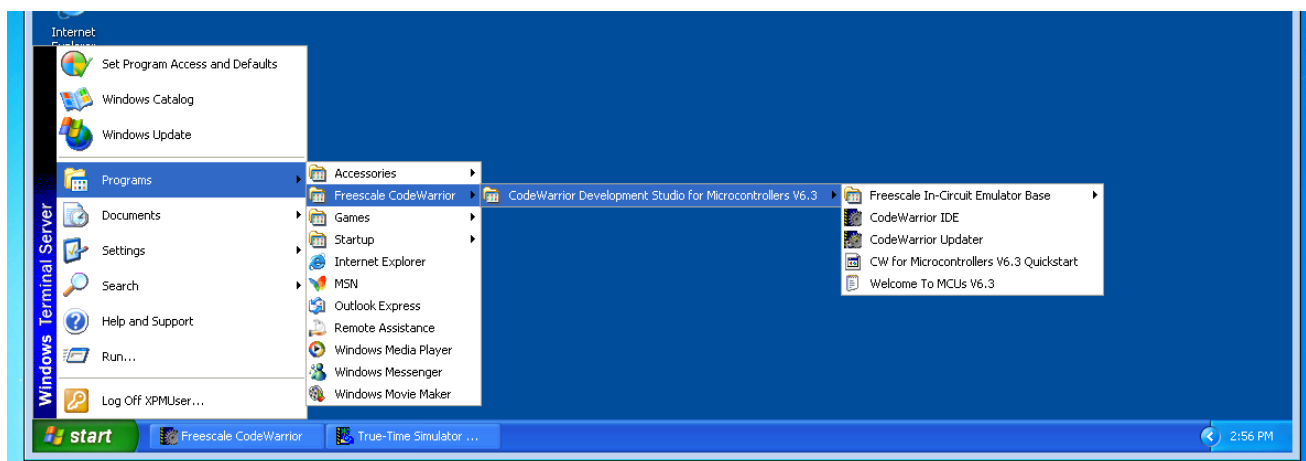

Figure 4.
- 2> Click Start in Windows XP mode and pick Programs\Freescale CodeWarrior\CodeWarrior Development Studio for Microcontrollers v6.3\CodeWarrior IDE to run it, as following picture shows – Figure 4.